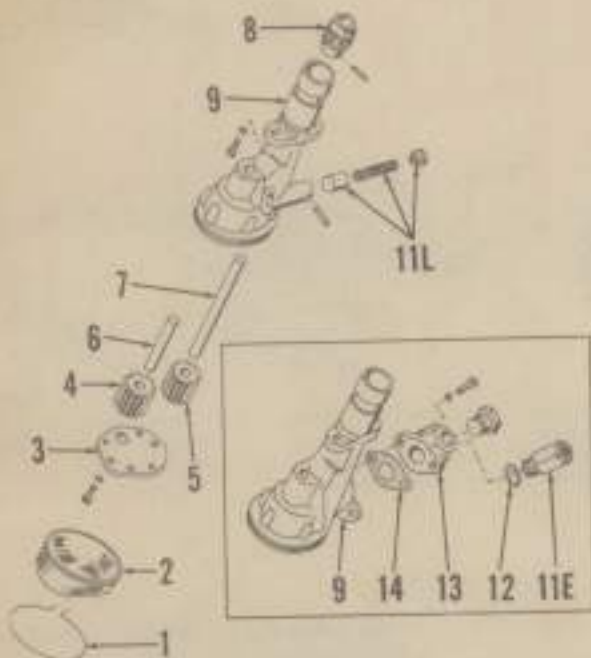

Fig. 55—Exploded view of D-15 diesel engine oil pump. Relief valve (11E) is early type, (11L) is late type. Refer to Fig. 54 for legend.
remove screen (2—Fig. 55 or 56) and cover (3). Extract pin from drive gear (8), then press shaft (7) out of drive gear and body. To remove either pump gear (4 or 5), press the drive shaft or idler shaft out of gear.
**NOTE:** Relief valve (11E or 11L—Fig. 55 or 11—Fig. 56) operating pressure is approximately 80 psi. Valve was incorporated to relieve surge pressures in system when engine oil is cold and does not affect normal engine oil pressure. This surge pressure relief valve may be installed in early production D-17 models if trouble is encountered in holding oil filter gaskets. Related parts must be used with installation.